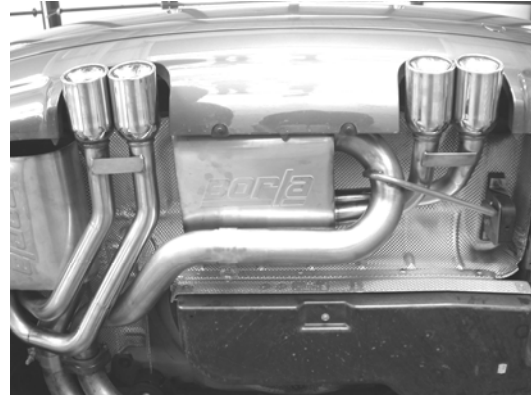

Figure 9
2. Place a clamp over the expanded end of the left muffler assembly and place into position shown in figure 9. Using the original hardware, secure the rubber brackets to the vehicle in their original position. DO NOT tighten the clamp.